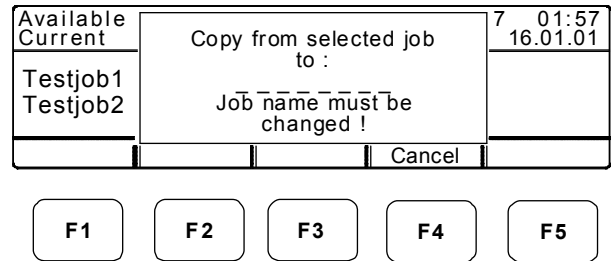

Figure 14-10. Job-Management Menu with Message
2. Press F3 (Copy). The “Copy from selected job to: ----- Job name must be changed!” message displays (Figure 14-10).